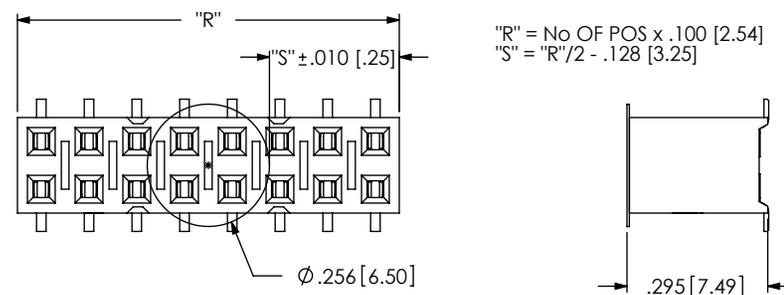

FIGURE 5
- M: METAL PICK & PLACE PAD (SEE NOTE 5) (USE MPP-02, SEE FIG. 5, SHT 2)